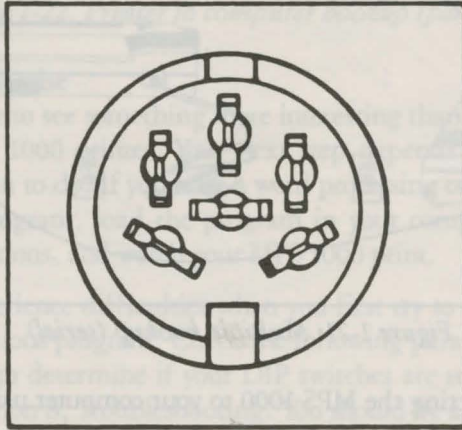

Figure 1-19. Serial port
1. Connect one end of the six-pin cable to the six-pin socket located in the back of your printer. Figure 1-19, below is a picture of the serial port. The cable is keyed so that you cannot plug it into the socket the wrong way. The pins are positioned so that a slight pressure will insert the pins properly. Do not force these pins; doing so could damage your cable.